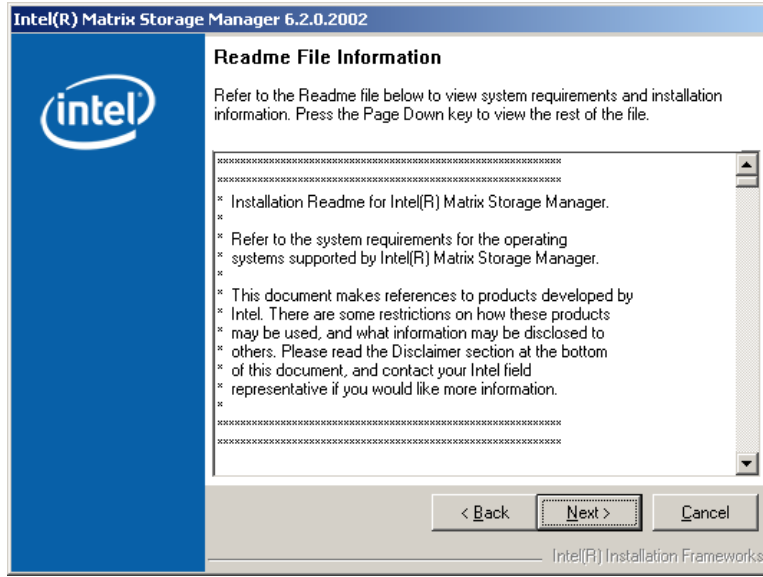

Figure 7-40: Matrix Storage Manager Readme File
Step 10: Read the license agreement. To accept the terms and conditions stipulated in the license agreement shown, click **YES** and the Readme information file shown in **Figure 7-40** appears.